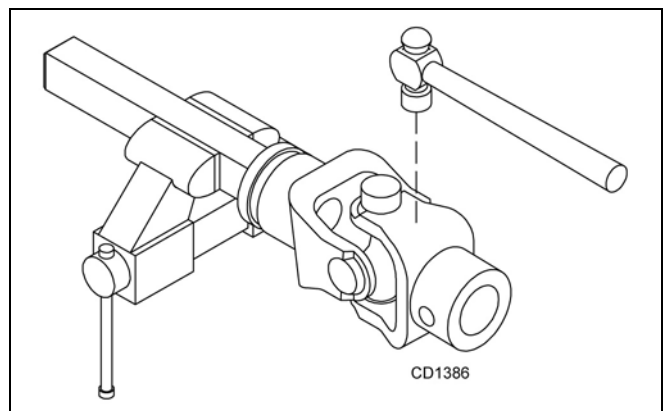

Figure 24
2. With snap rings removed, support drive in vise, hold yoke in hand and tap on yoke to drive cup out of yoke. See Figure 24.